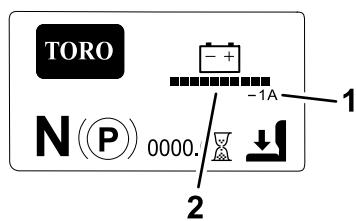

Figure 19
- Main information screen (Figure 19):** shows current machine information while the key is in the ON position. This screen shows the battery-system charge level and the amperage.